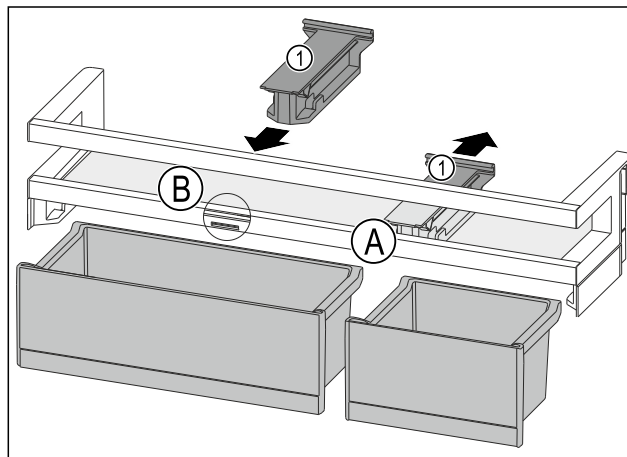

Fig. 89
- ▶ Take off the holding part Fig. 89 (1) in position Fig. 89 (A) backwards.
- ▶ Insert the holding part Fig. 89 (1) in position Fig. 89 (B).